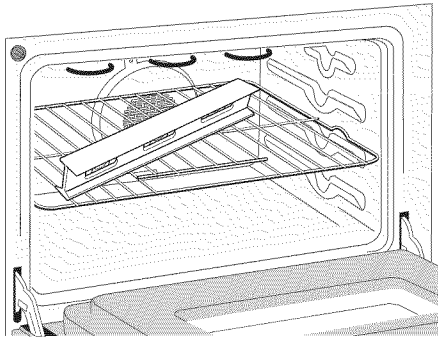

Figure 4
**NOTE:** Electric Slide-in Range is shipped from factory with 1 1/8" (2.9 cm) dia. hole as shown on figure 4. If a larger hole is required, punch out the knockout.